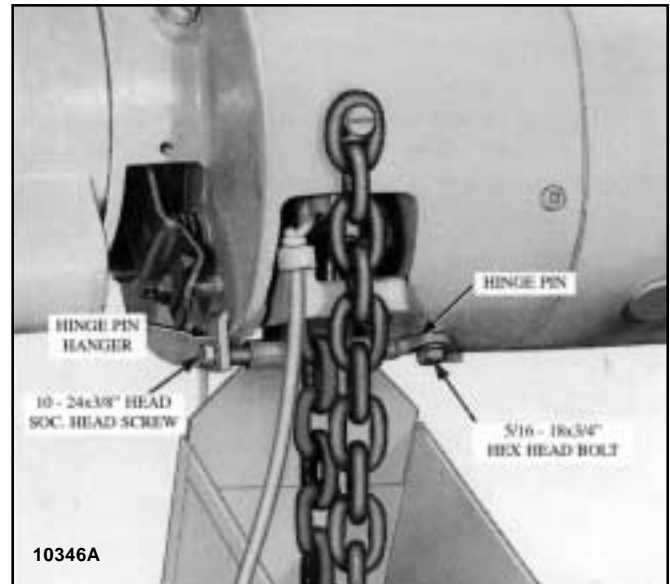
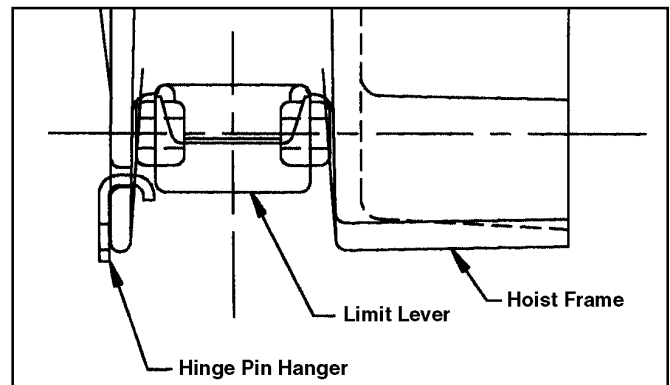

Figure 1. Hinge Pin and Hanger Installation
Figure 3.
3. Insert hinge pin hanger into hoist frame as shown in Figure 3. Insert hinge pin into hinge tube welded to container. Attach hinge pin to the hanger with flat washer and self-locking hex socket head screw, being sure that the pin is fully inserted into hole in the hanger. Pin and hanger must be positioned as shown in Figure 1. Attach hinge pin to frame with bolt and lockwasher. The hanger must be held tight against hoist frame while tightening this bolt (pin is slotted to permit slight lateral adjustment). On Pull Cord Control model hoists, brake access cover (Figure 4) must be temporarily removed before attaching container and hinge to frame.
7. On Pull Cord Control models, looking at motor end of hoist, remove "Down" control cord from right hand end of limit lever. Install plastic tube over upper foot of cord to prevent chafing of cord on side of container. See Figure 1 on other side. Knot cord at bottom of tube to hold in place. Reattach control cord to limit lever.